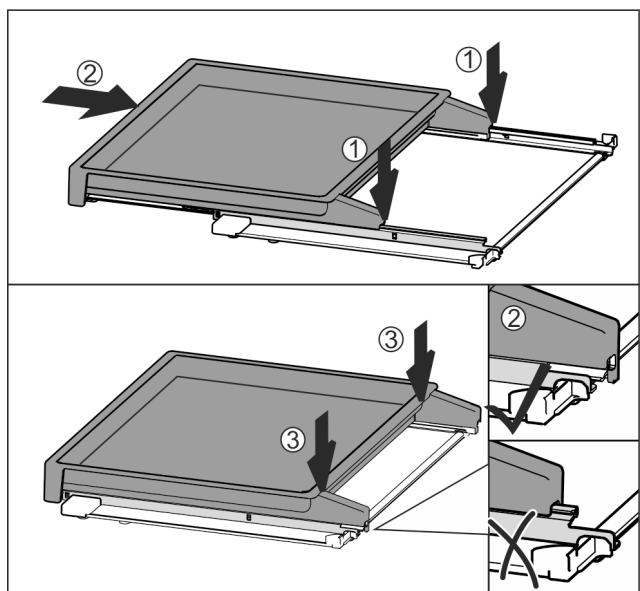

Fig. 33
- ▶ Place centrally on the rails *Fig. 33 (1)*.
- ▶ Slide the pull-out board all the way in *Fig. 33 (2)*.
- ▶ Press down at the back until it clicks into place *Fig. 33 (3)*.